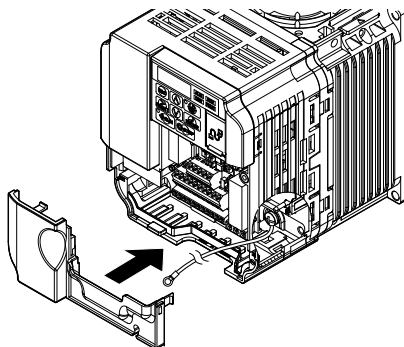
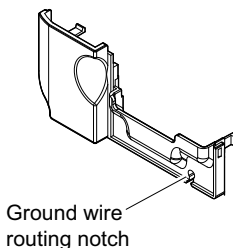

Figure 13 Reattach the Terminal Cover (Models CIMR-V□BA0006□ to BA0018□; 2A0008□ to 2A0069□; 4A0001□ to 4A0038□)
Figure 14 Terminal Cover Ground Wire Notch (Models CIMR-V□BA0006□ to BA0018□; 2A0008□ to 2A0020□; 4A0001□ to 4A0011□)
- 10.** On models CIMR-V□BA0006□ to BA0018□, 2A0008□ to 2A0069□, and 4A0001□ to 4A0038□, reattach the terminal cover. Refer to **Figure 13** and **Figure 14** for drive models CIMR-V□BA0006□ to BA0018□, 2A0008□ to 2A0020□, and 4A0001□ to 4A0011□, which require routing the ground wire through the provided notch when reinstalling the terminal cover.